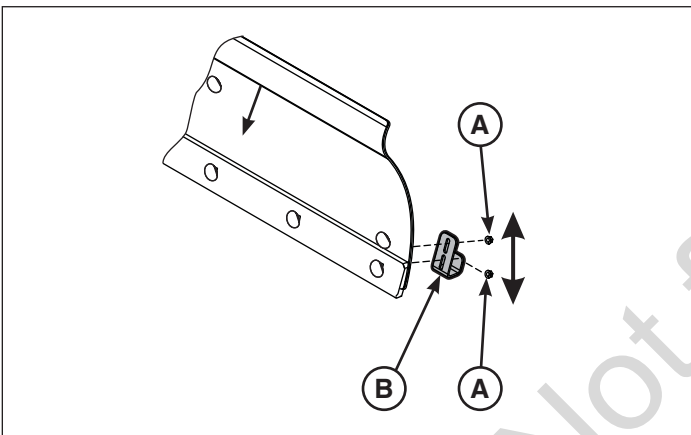

Figure 27
2. Loosen the nuts (**A**, Figure 27) securing the skid shoes (**B**).